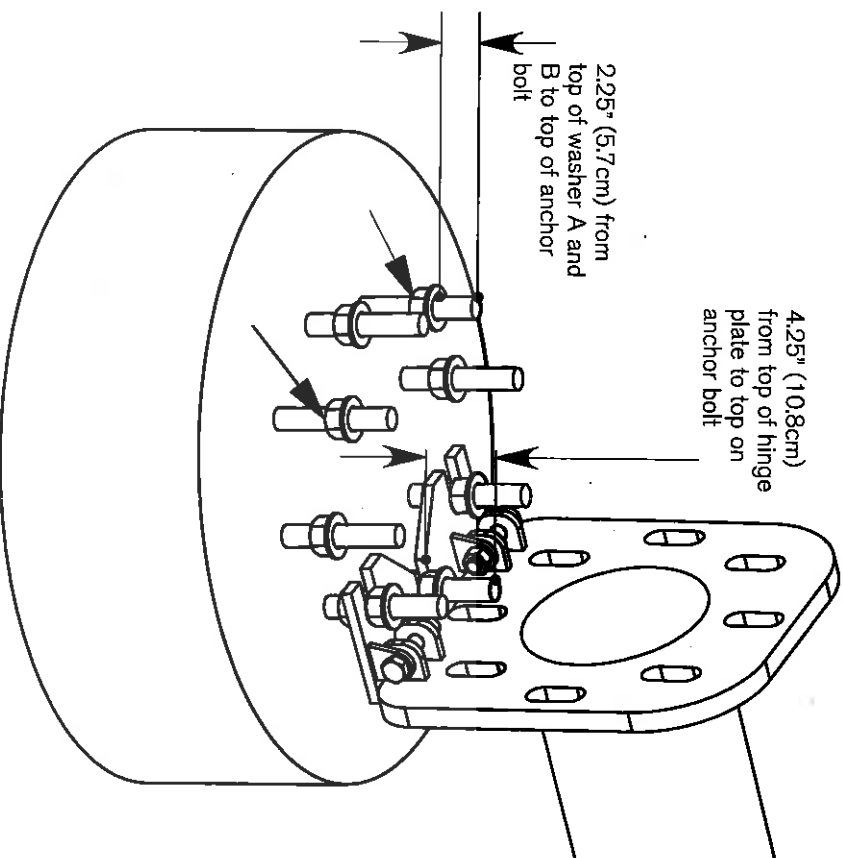

Fig. 8 Early Version hinge assembly and nut placement.
IMPORTANT: There are two versions of the Hinge Plate Kit – **Early and Later Versions** - refer to Figs. 8 and 9 to determine which kit you have and follow the directions for that kit.
(refer to **Fig. 8** and follow instructions below)
- Using suitable lifting equipment, lift the tower (with hinge) and position the hinge slots between the nuts on the foundation bolts. Refer to **Fig. 8**.
- Position the remaining nuts as shown in **Fig. 8**. The washers on the "A" and "B" nuts should be 2 1/4 inches from the top of the bolts. Position the remaining nuts lower than the "A" and "B" nuts – these nuts will be tightened after leveling the tower.
The tower, hinge plate and foundation should now appear as shown in **Fig. 8**.
- Securely tighten the 1 1/4" nuts that secure the hinge to the foundation bolts. Check the distance from the top of the hinge to the top of the foundation bolts is 4 1/4". Adjust if necessary. Refer to **Fig. 8**.
- Loosen and lower the four nuts on the "sides" of the foundation base plate. In other words the tower should be supported by the four "corner" nuts of the tower base plate. (refer to **Fig. 8**, Bolts A and B are "corner" bolts)